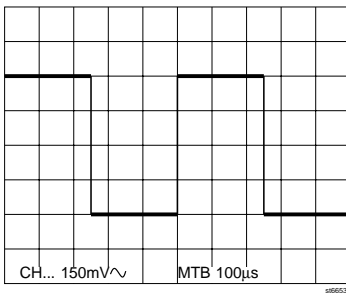

Figure 3.5
- Check for a display as indicated in Fig. 3.5.